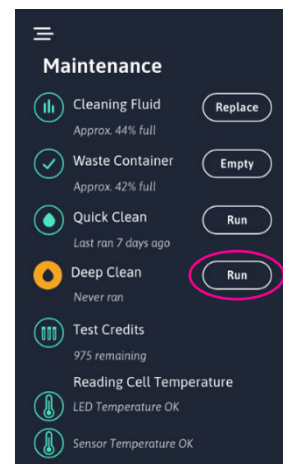

Figure 34
2. Press Deep Clean “Run” button in the Maintenance sub-menu to start a Deep Clean (Figure 34).